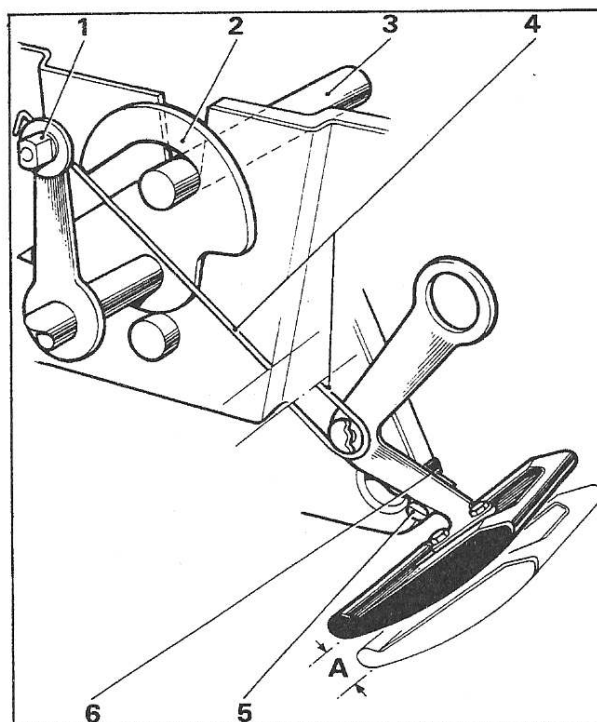

Fig. S28 Setting the bonnet catch operating mechanism
Refer to Figure S28 which shows the setting bar in position on a right-hand drive car. On left-hand drive cars, position the setting bar at the opposite end of the countershaft.
7. Tighten the nipple so that, with the cam fully closed on the setting bar, there is approximately 3,2 mm. (0.125 in.) of free movement between the lever when resting on its rubber stop and when it starts to open the cam (see Fig. S28).
8. When the wire is set, bend the free end of the wire which protrudes through the nipple (see Fig. S28).